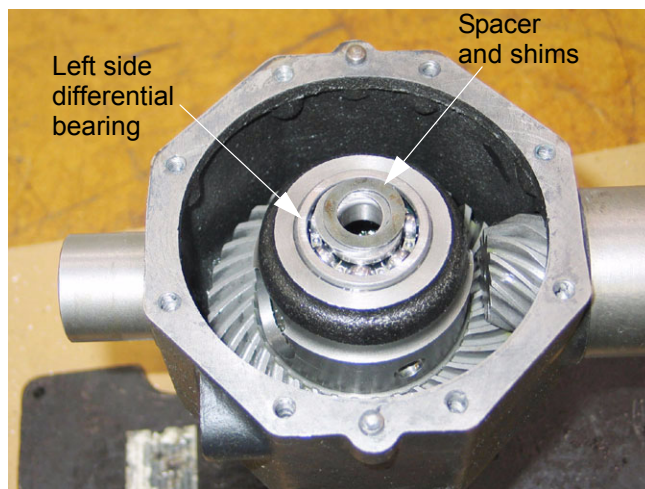

Figure 9.57
- 9.57. Add a known quantity of additional shim washers having an inside diameter of .780" (1.98 cm). The differential will be intentionally over-shimmed. See Figure 9.57.